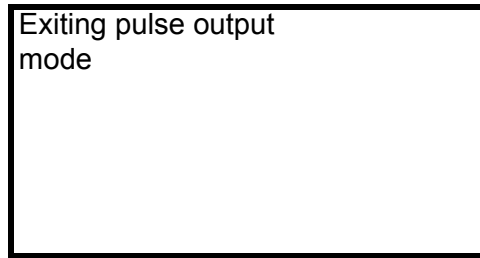

Figure 48 Forcible pulse output release message
6. If exit is selected, the HART[®] Communicator display will show a message stating 'Exiting pulse output mode'. (Figure 48) After a short while, a forcible pulse output is released and the display returns to the menu. If F3 (ABORT) is pressed here, the display returns to the menu where you should proceed to step 7.